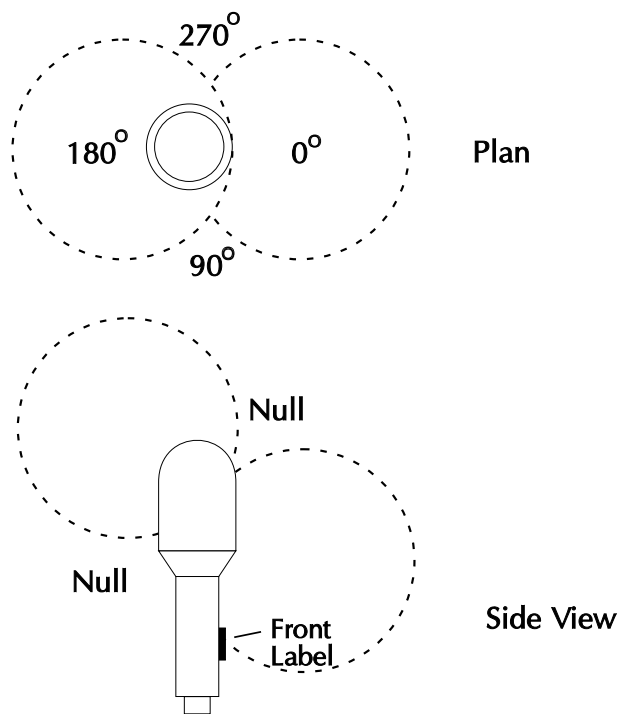

Figure 4: Figure of Eight: Angle, Azimuth
- Test 8** Repeat Test 7 at -45° and note that the peaks move to this position relative to microphone front and 45° relative to microphone back as in Figure 4.